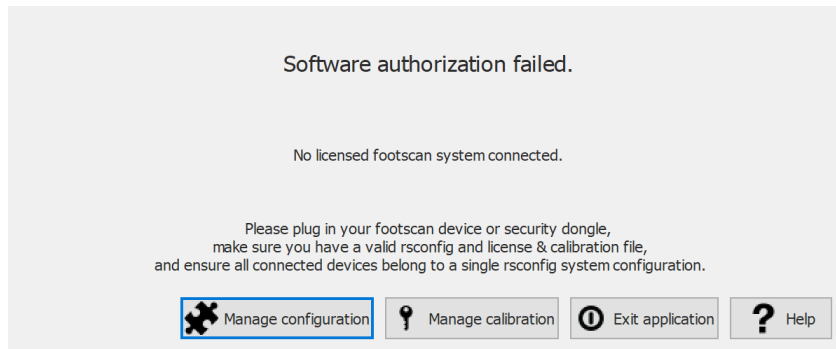

Figure 6: The software package and modules dialog can be opened in the security dialog.
1. By clicking the **Manage configuration** button in the Security Dialog (Figure 6). More information about the security dialog can be found in section 4.1.